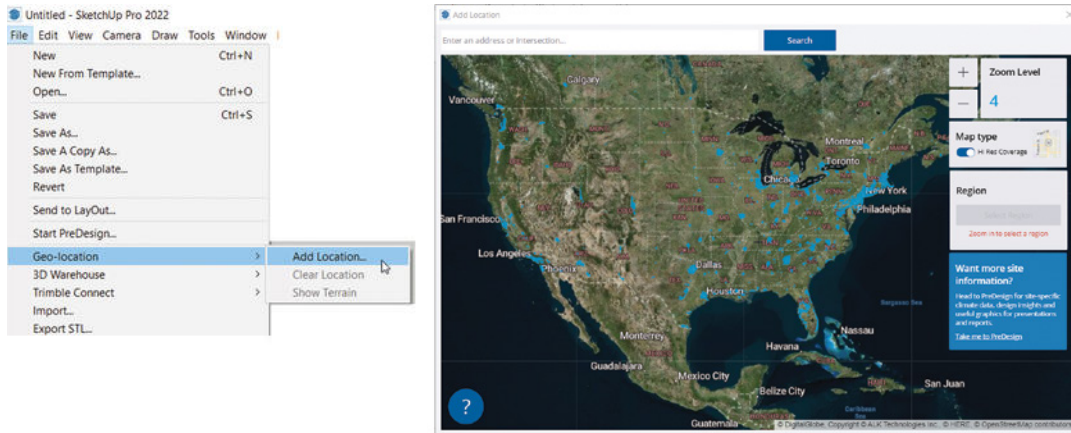

Figure 5-86: The Geo-location function.
1. Click on **File>Geo-location>Add location**. A map will appear (Figure 5-86).